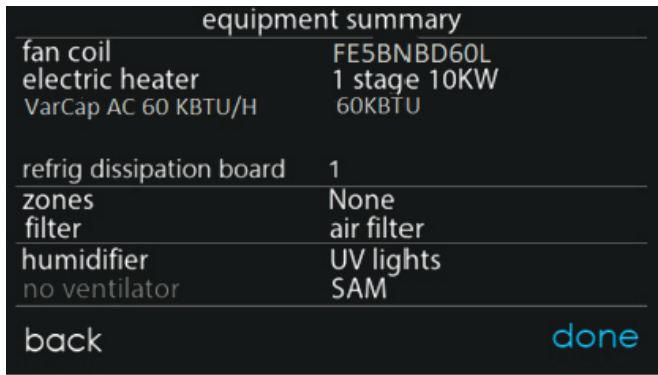

Fig. 12 – Equipment Summary Screen
4. The Infinity® System Control will then advance through the remaining learning processes including the setup of accessories such as filter type, UV light, and humidifier. Upon completion of the setup screens, the equipment summary screen will be presented (Fig. 12). Verify the correct equipment is shown on this screen. Next an airflow verification test is executed before returning to the main screen.